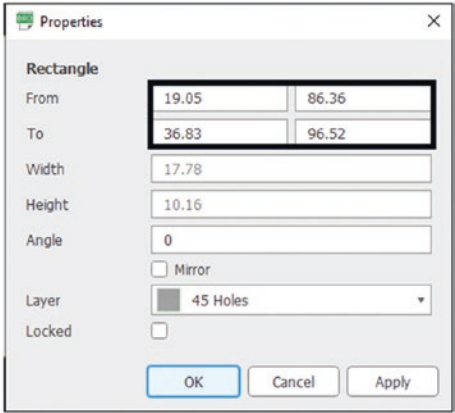

Figure 7-11. Dimensions of the top-left rectangle
9. Here are the top-left rectangle values. See Figure 7-11.